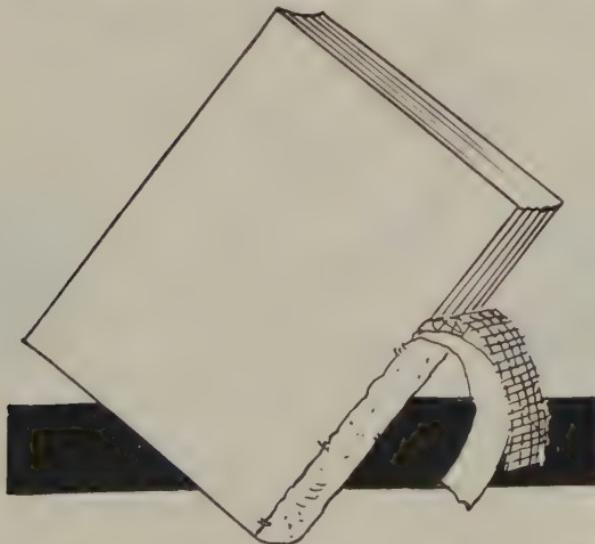

FIG. 157—"PEELING" OLD CRASH AND LINING PAPER FROM BACK OF BOOK
4. Remove the crash and paper from backbone of book by "peeling" it *away* from back carefully. Thoroughly wetting the back with a sponge saturated with water will help to loosen paper, crash and glue. (Fig. 157.)